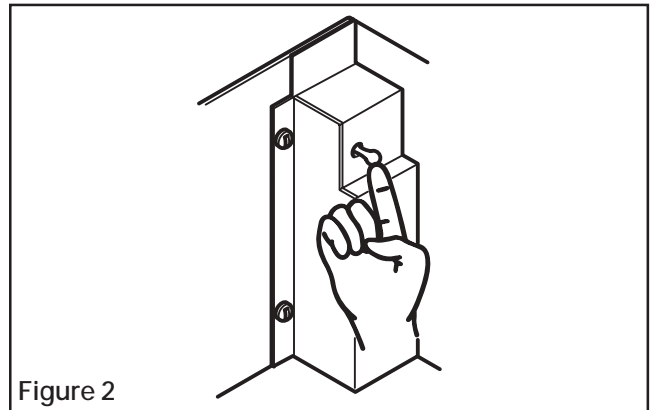

Figure 2
2. Turn the TC820 on using the Power Switch located inside upper right corner of the back panel. (See Figure 2).
1. Turn the TC820 off using the Power Switch located inside upper right corner of the back panel (See Figure 2).